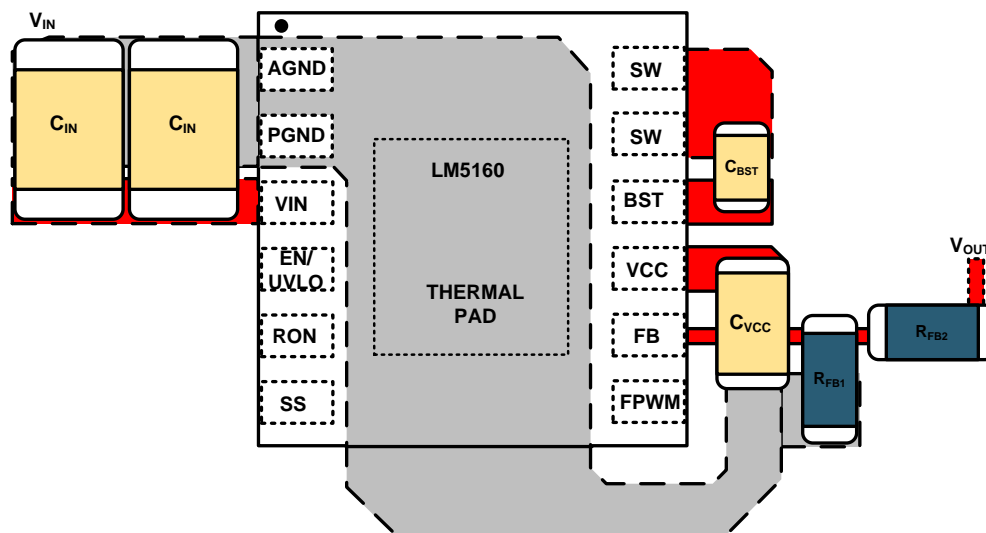

Figure 35. Placement of Bypass Capacitors
- C_{IN} : The loop consisting of input capacitor (C_{IN}), VIN pin and PGND pin carries the switching current. The input capacitor must be placed close to the IC, directly across VIN and PGND pins, and the connections to these two pins must be direct to minimize the switching power loop area. In general, it is not possible to place all of input capacitances near the IC. A good layout practice includes placing the bulk capacitor(s) as close as possible to the VIN pin (see Figure 35). A bypass capacitor measuring 0.1 μF must be placed directly across VIN and PGND (pin 3 and 2, respectively), as close as possible to the IC while complying with all layout design rules.
- C_{VCC} and C_{BST} : The VCC and bootstrap (BST) bypass capacitors supply switching currents to the high-side and low-side gate drivers. These two capacitors must also be placed as close to the IC as possible, and the connecting trace length and loop area must be minimized (see Figure 35).